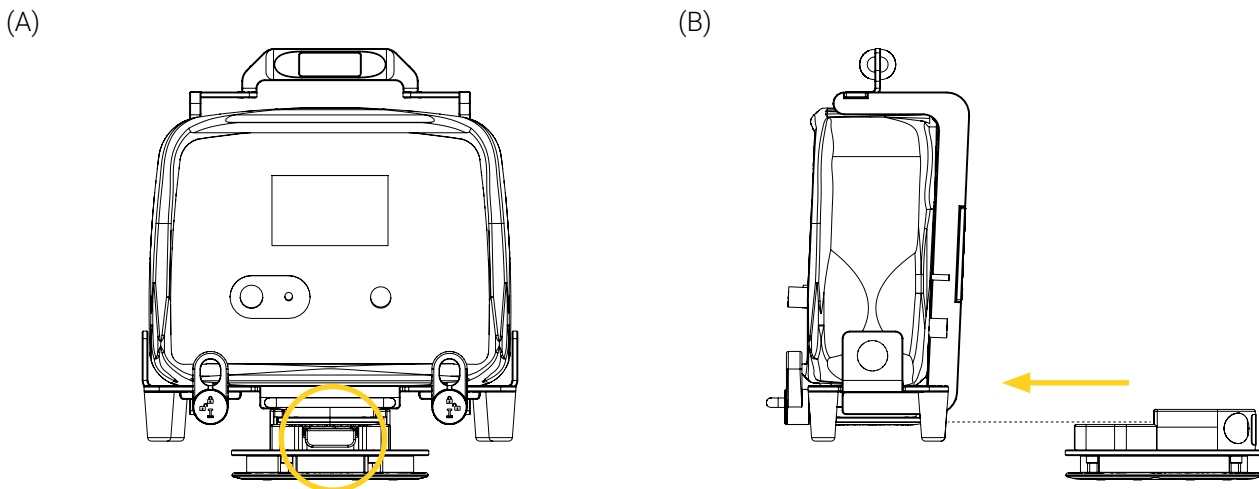

Figure 13: Removing the mounting bracket from the Micro Base
1. Press and hold the quick release button located at the front of the Micro Base (Figure 13 A), then pull the BP310 – FL out of the base horizontally using the front handle (Figure 13 B).